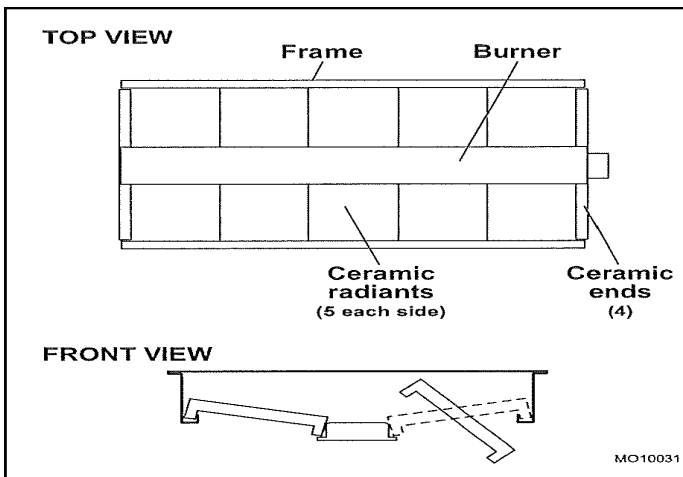
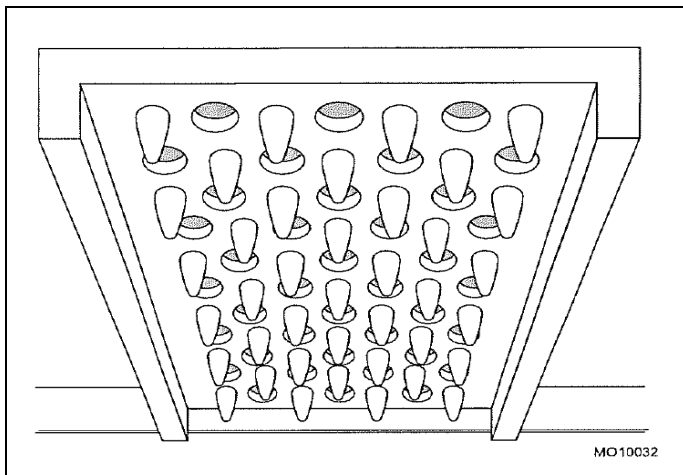

Figure 2. Ceramic Radiants Positioning
Figure 3. Ceramic Radiants
Ceramic radiants, Figure 2, are located on each side of the burners. Ceramic end pieces are installed at both ends of each burner assembly. Five (5) ceramic radiants are installed on each side of the burner with the pointed side facing down and the side holes facing up, Figure 3.